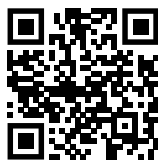

Fig. 139
- ▶ Otevřete Liebherr SmartMonitoring Dashboard. (viz Fig. 139)